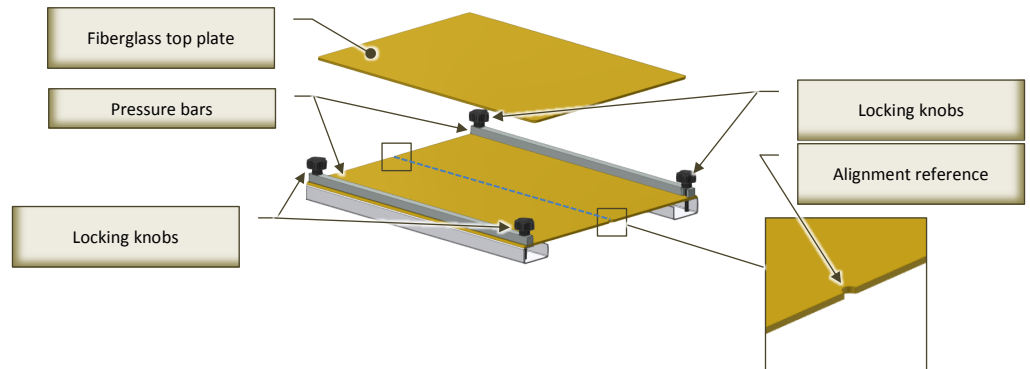

Fig. 8-3 - Positioning of a fabric belt on the equalizing plate (parts)
2. If you want to join a Fabric belt, load it into the equalizing plate (Fig. 8-3 and Fig. 8-4):